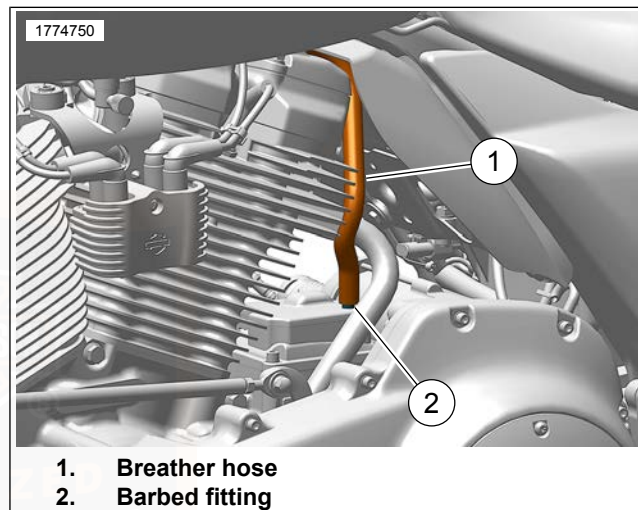

Figure 102. Breather Hose
1. See Figure 102. Pull breather hose (1) straight up off barbed fitting (2) on top of transmission.